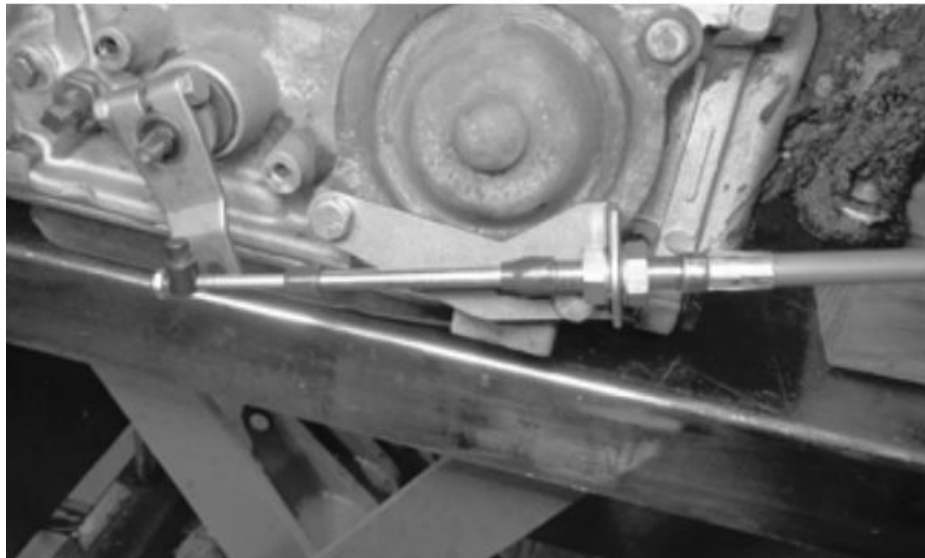

Figure 21
- 32.** Attach the shifter cable to the cable bracket by removing the small jam nut, two plastic dust boots, and one large nut and lock washer from the cable housing. Then insert the cable housing in the cable bracket, reinstall the lock washer and large nut on the cable (loosely, to allow room for adjustment), and reinstall the two dust boots (figure 21).